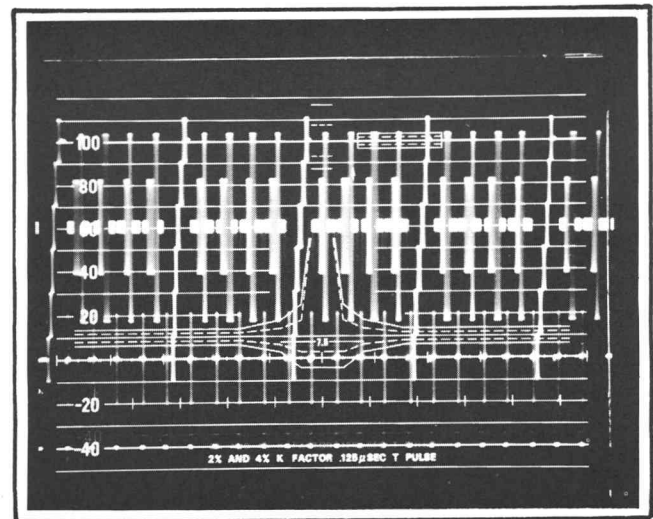

Fig. 2-6. Modulated 60 IRE level with modulated steps.
20. Set the Type R529 Display switch to 2 Field and the Mag switch to X25. Set the 146 MOD STAIRCASE STEPS switch to 5 and note that a staircase signal now appears on one out of every five lines in the active video region including VITS. Modulation can be applied to the steps with the 180° SUBCARRIER switch (see Fig. 2-6). Return the 180° and 90° SUBCARRIER switches to the Standard Signal position and the APL/IRE LEVEL switch to 50%.